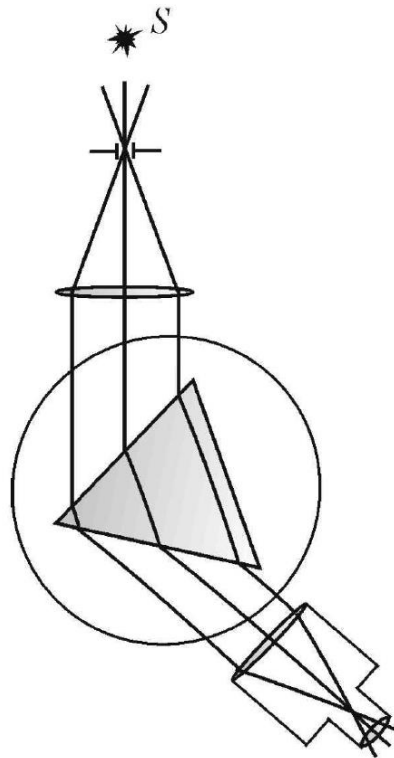

Figure 521.5. Experimental setup
2. Install the prism on the table so that the ray from the collimator passes through the prism (Fig. 521.5). Set a slightly larger angle of incidence; rotate the tube and capture the spectrum in the FOV.